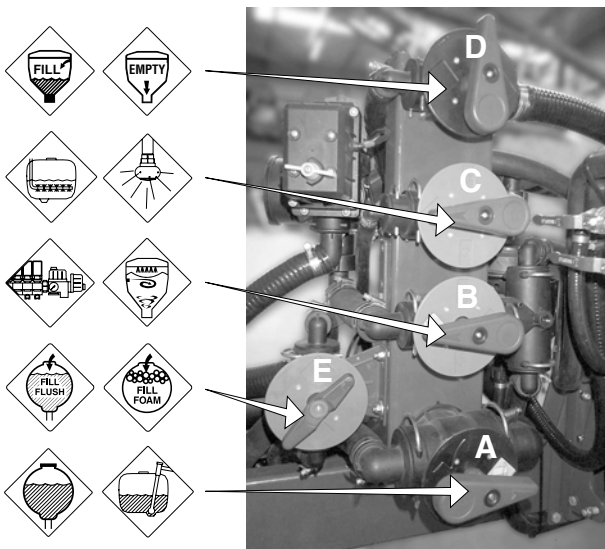

Fig 32
- With FILL handle (E Fig 32) OFF, align the Pressure handle (B Fig 32) with the icon indicating CHEM FILL.
- Align Suction valve (A Fig 32) with MAIN TANK. This means liquid from the Main Tank will be used to mix with chemical concentrate in the GRANNI POT, and the spray solution will be used to flush the concentrate from the GRANNI POT hopper.
- After adding the required chemicals, you can flush the GRANNI POT hopper with clean water. Align the Suction handle (A Fig 32) to FLUSH TANK.
- IMPORTANT!** Return the Suction handle (A) to MAIN TANK, and Pressure (B) to DISTRIBUTION (Spray). Continue filling the Main Tank with tractor running.
Turn FILL handle (E Fig 32) OFF.
- Align Pressure valve (B Fig 32) with the icon indicating the CHEM FILL.
- Turn the Suction valve (A Fig 32) to MAIN TANK. This means liquid from the Main Tank will be used to mix with chemical concentrate in the Granni Pot. Follow GRANNI POT Operators Manual directions.
- After adding chemicals, flush the hopper with clean water (Suction valve (A Fig 32) to FLUSH TANK.
- Return Suction valve (A) to MAIN TANK, and Pressure valve (B) to DISTRIBUTION (Spray).
- Turn the pressure valve (B Fig 32) to align with the icon indicating the CHEM FILL.
- Align Suction valve (A Fig 32) with FLUSH TANK. This means that, as the Flush Tank is being topped up from your water supply, its contents will be used to mix with chemical concentrate in the Granni Pot, the mixture then transferring to the Main Tank.
NOTE! Watch level of fluid in Flush Tank. Keep fluid level consistent by adjusting the FILL handle (E Fig 32) between FLUSH TANK and OFF.
- After adding chemicals, with the Suction valve (A Fig 32) remaining at FLUSH TANK, flush the GRANNI POT with clean water.
- Turn Pressure valve (B Fig 32) to DISTRIBUTION (spray), and return Suction valve (A) to MAIN TANK. Open primary filling valve to MAIN TANK to complete filling.